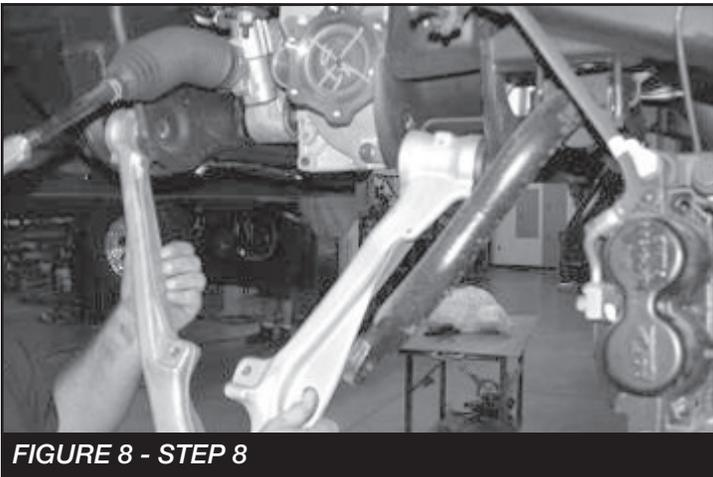

FIGURE 8 - STEP 8
8. Remove the lower control arms from the frame and retain with the hardware for reinstallation. **SEE FIGURE 8**